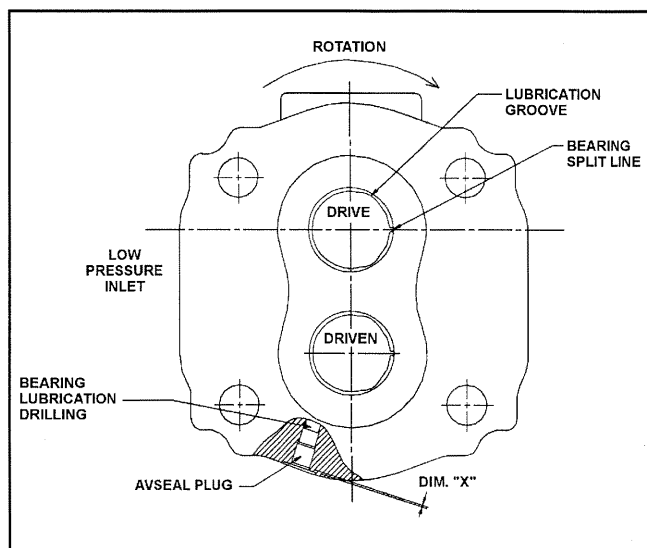

Figure 4: Bearing Orientation in Cover For Counter-Clockwise Rotation Viewed on Figure "8" Spigot
2. For helical gear pump front covers only: If plug is not fitted into cover, do so as specified on page 3 (refer to Table 2 and Figure 4).